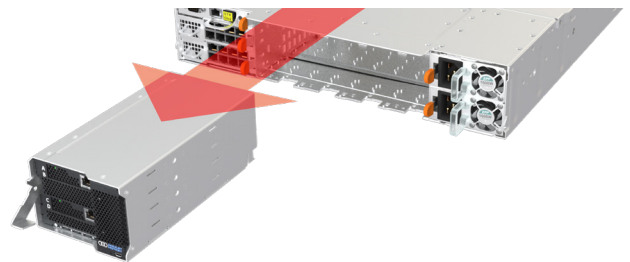

Figure 7: Remove the Quad-Expansion module from the FX2s chassis
- Carefully draw out the Quad-Expansion module and fit the connector protector that came with the unit. See Figure 7.